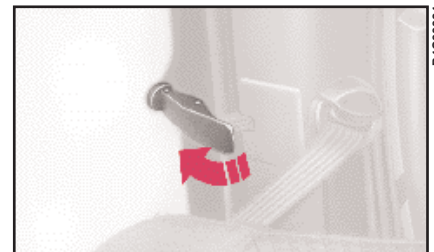

fig. 64
1) Move the lever as shown in (fig. 64).